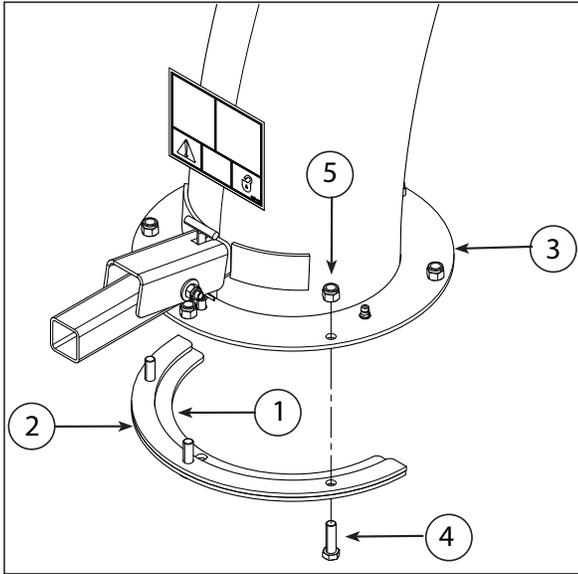

Figure 2.7, Attach clamp ring and spacer
1. Attach one clamping ring (1) and one spacer ring (2) to discharge tube base (3) using three 3/8 x 1 1/4" bolts (4) and nylock nuts (5). Tighten leaving 1/16" gap to assist in mounting to flange. See Figure 2.7.